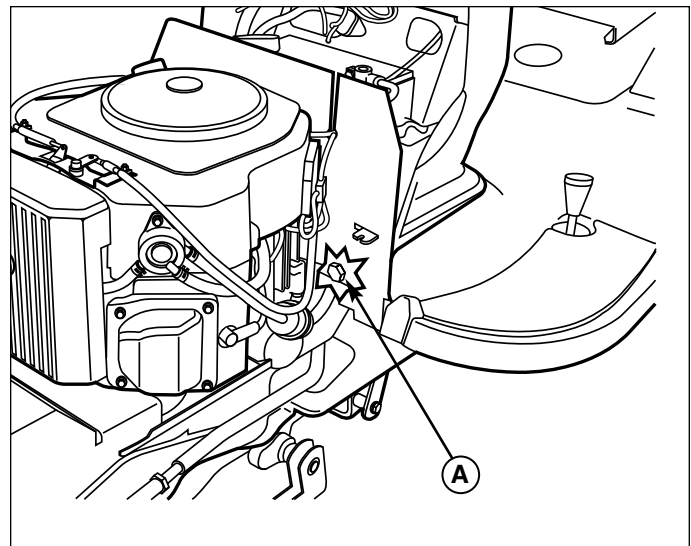

Figure 40. Manual Lift Assist Adjustment
1. Locate the adjustment bolt (A, Figure 40) at the lower left corner of the engine compartment bulkhead.
2. Turn the bolt (A) clockwise to increase assist. Turn the bolt (A) counterclockwise to reduce lift assist.